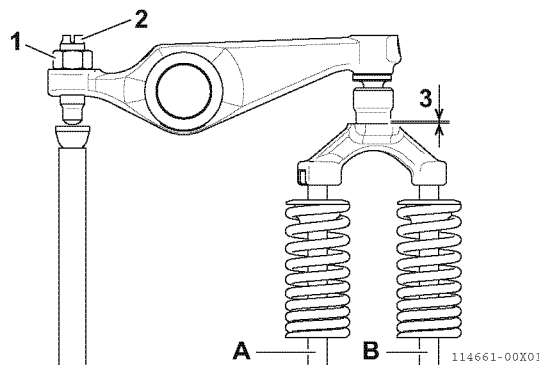

Fig.14-41
- 5 - Loosen the lock nut (1, Fig.14-41) of the valve adjusting screw (2, Fig.14-41) attached to the rocker arm.